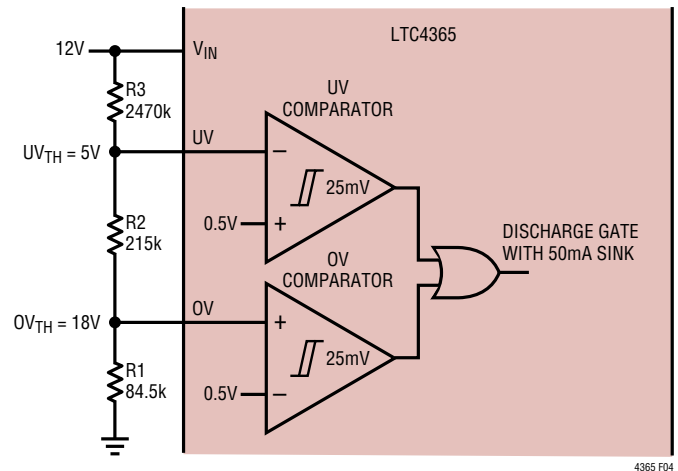

Figure 4. UV, OV Comparators Monitor 12V Supply
The LTC4365 provides two accurate comparators to monitor for overvoltage (OV) and undervoltage (UV) conditions at V_{IN} . If the input supply rises above the user adjustable OV threshold, the gate of the external MOSFET is quickly turned off, thus disconnecting the load from the input. Similarly, if the input supply falls below the user adjustable UV threshold, the gate of the external MOSFET also is quickly turned off. Figure 4 shows a UV/OV application for an input supply of $12V$.
The external resistive divider allows the user to select an input supply range that is compatible with the load at V_{OUT} . Furthermore, the UV and OV inputs have very low leakage currents (typically $< 1nA$ at $100^\circ C$), allowing for large values in the external resistive divider. In the application of Figure 4, the load is connected to the supply only if V_{IN} lies between $5V$ and $18V$. In the event that V_{IN} goes above $18V$ or below $5V$, the gate of the external N-channel MOSFET is immediately discharged with a $50mA$ current sink, thus isolating the load from the supply.
The following 3-step procedure helps select the resistor values for the resistive divider of Figure 4. This procedure minimizes UV and OV offset errors caused by leakage currents at the respective pins.
The example of Figure 4 uses standard 1% resistor values. The following parameters were selected: